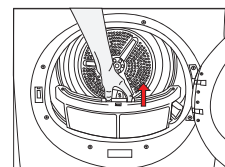

Fig5
- 2.Remove the cover filter by pulling it up and open the filter (Fig5,6)